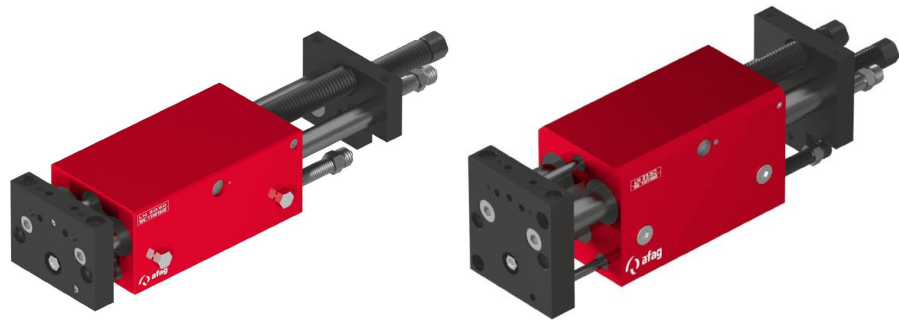

Fig. 21 Maintenance on linear module LM 20 or LM 25
1. Lubricate ball bush (14) with lubricant "Blasolube 301".
2. Press the ball bush into the base body (Fig. 21, 1) from two sides.
**Important:** Wipers of the ball bushings (14) must always be on the outside!
3. Carefully press the piston rod (8) flush into the pre-assembled piston (12).
4. Wiper (10), O-ring (11) and cylinder cover are already pre-assembled. Place these pre-assembled parts in the correct position (wiper facing the thread) on the piston rod (8).
5. Lubricate cylinder cover (9) and O-ring (lubricant: Blasolube 301).
6. Insert the pre-assembled and lubricated piston rod (8) into the piston bore on the main body (1).
7. Insert mounting plate (2) with guide rods (3) into ball bushings in the base body (1).
8. Insert the stop support plate (4) onto the guide rods (3) and tighten with screws (5) (8.5 to 9.9 Nm).
9. Insert the piston rod (8) into the end plate (2).
10. Insert washer (7a) on piston rod (8) and tighten with piston rod stop nut (2 Nm). Make sure that the piston rod is held in place with the aluminium jaw pliers.